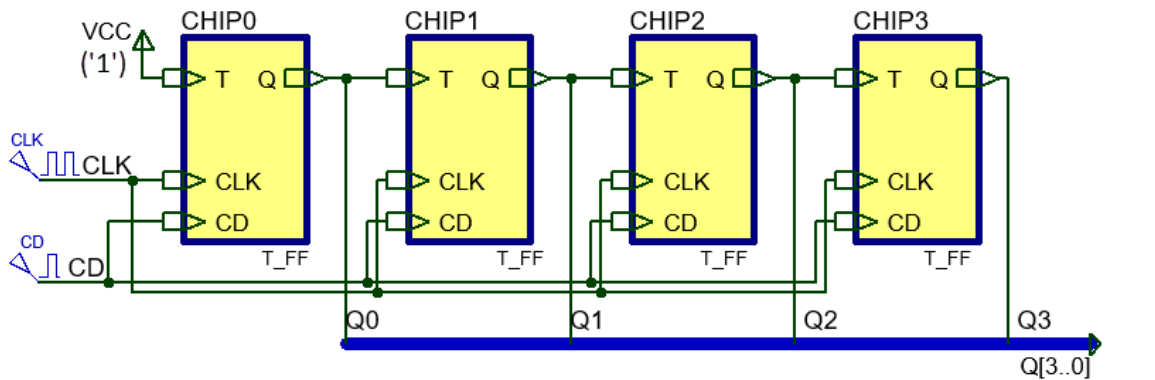

Fig. 39
1. Analyse the circuit in Fig. 39 and, draw a timing diagram of the outputs $Q(3..0)$ that apply to this procedure. How many states does this circuit have? Which is the output value $Q(3..0)$ for each state?
2. Verify your results by simulating the circuit in Proteus. The schematic in Fig. 39 can be captured by modifying a similar circuit such as this one in Problem 5.8.